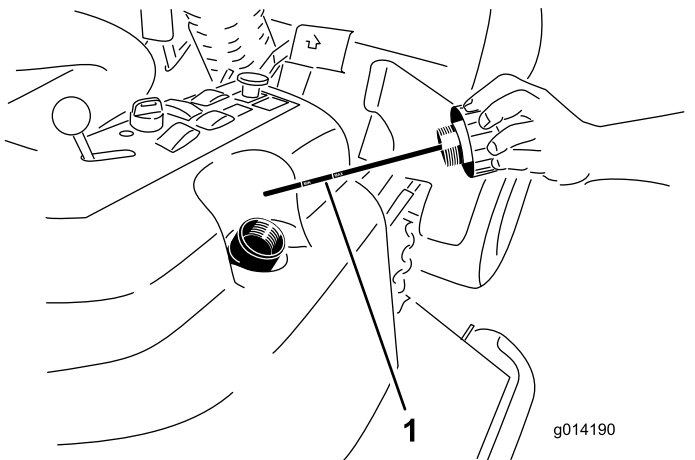

Figure 48
4. Remove the hydraulic-filler cap (Figure 48) from the filler neck.
5. Remove the dipstick and wipe it with a clean rag (Figure 48).
6. Screw the dipstick all the way into the filler neck; then remove it, and check the level of the fluid (Figure 48).